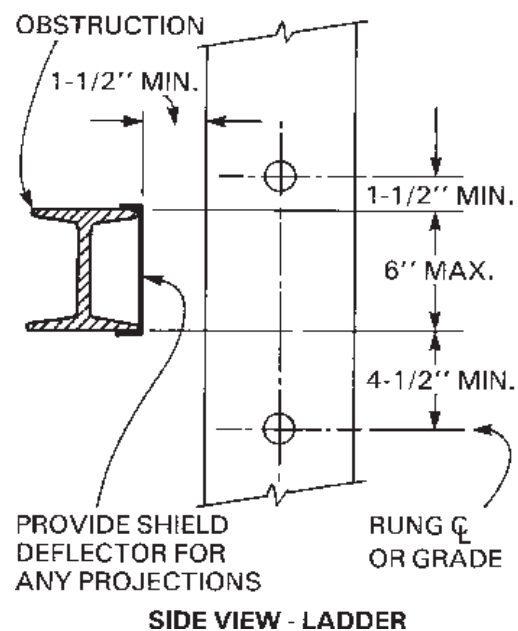
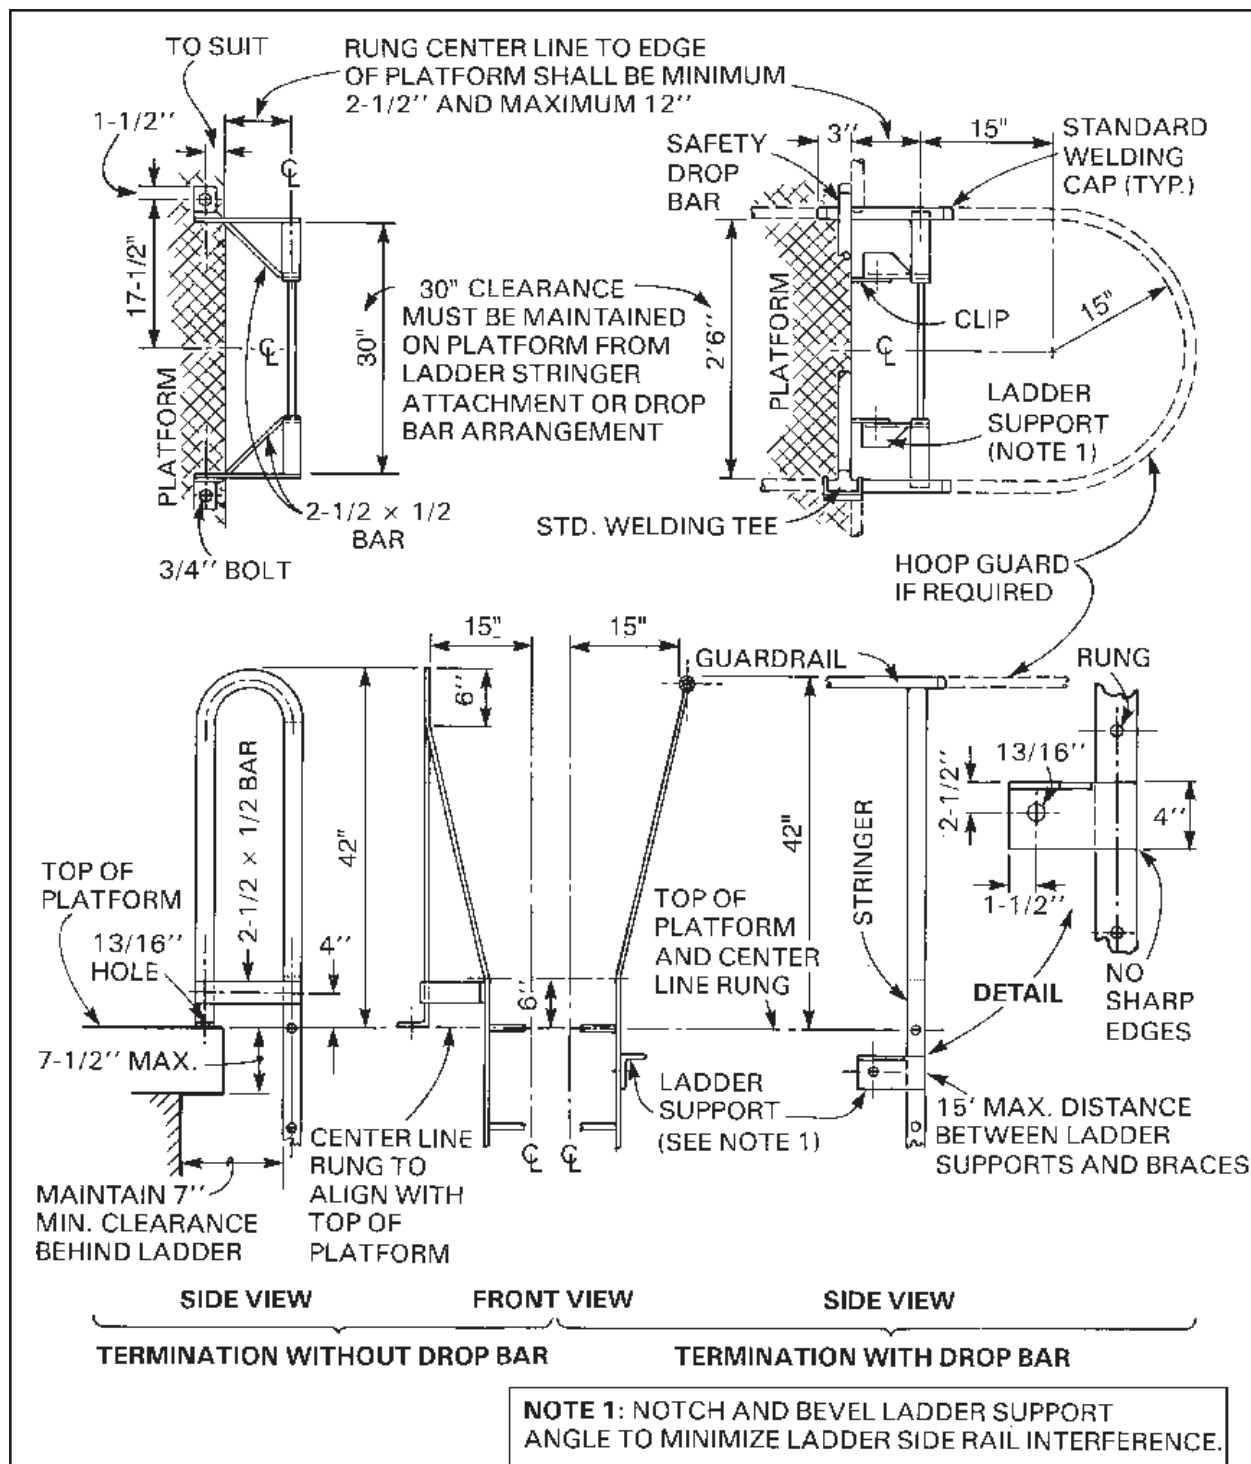

Figure 4.2 Clearance for Unavoidable Obstructions at Rear of Fixed Ladders.
Figure 4.6 Step Through Ladder Head (Alternate)
- Exceptions: The edge of top landing is not included in this requirement (see *Figure 4.6*). Unavoidable **structural members** may infringe upon this clearance if confined as shown in *Figure 4.2*.*
1. *Figure 4.6* shows the step through arrangement.